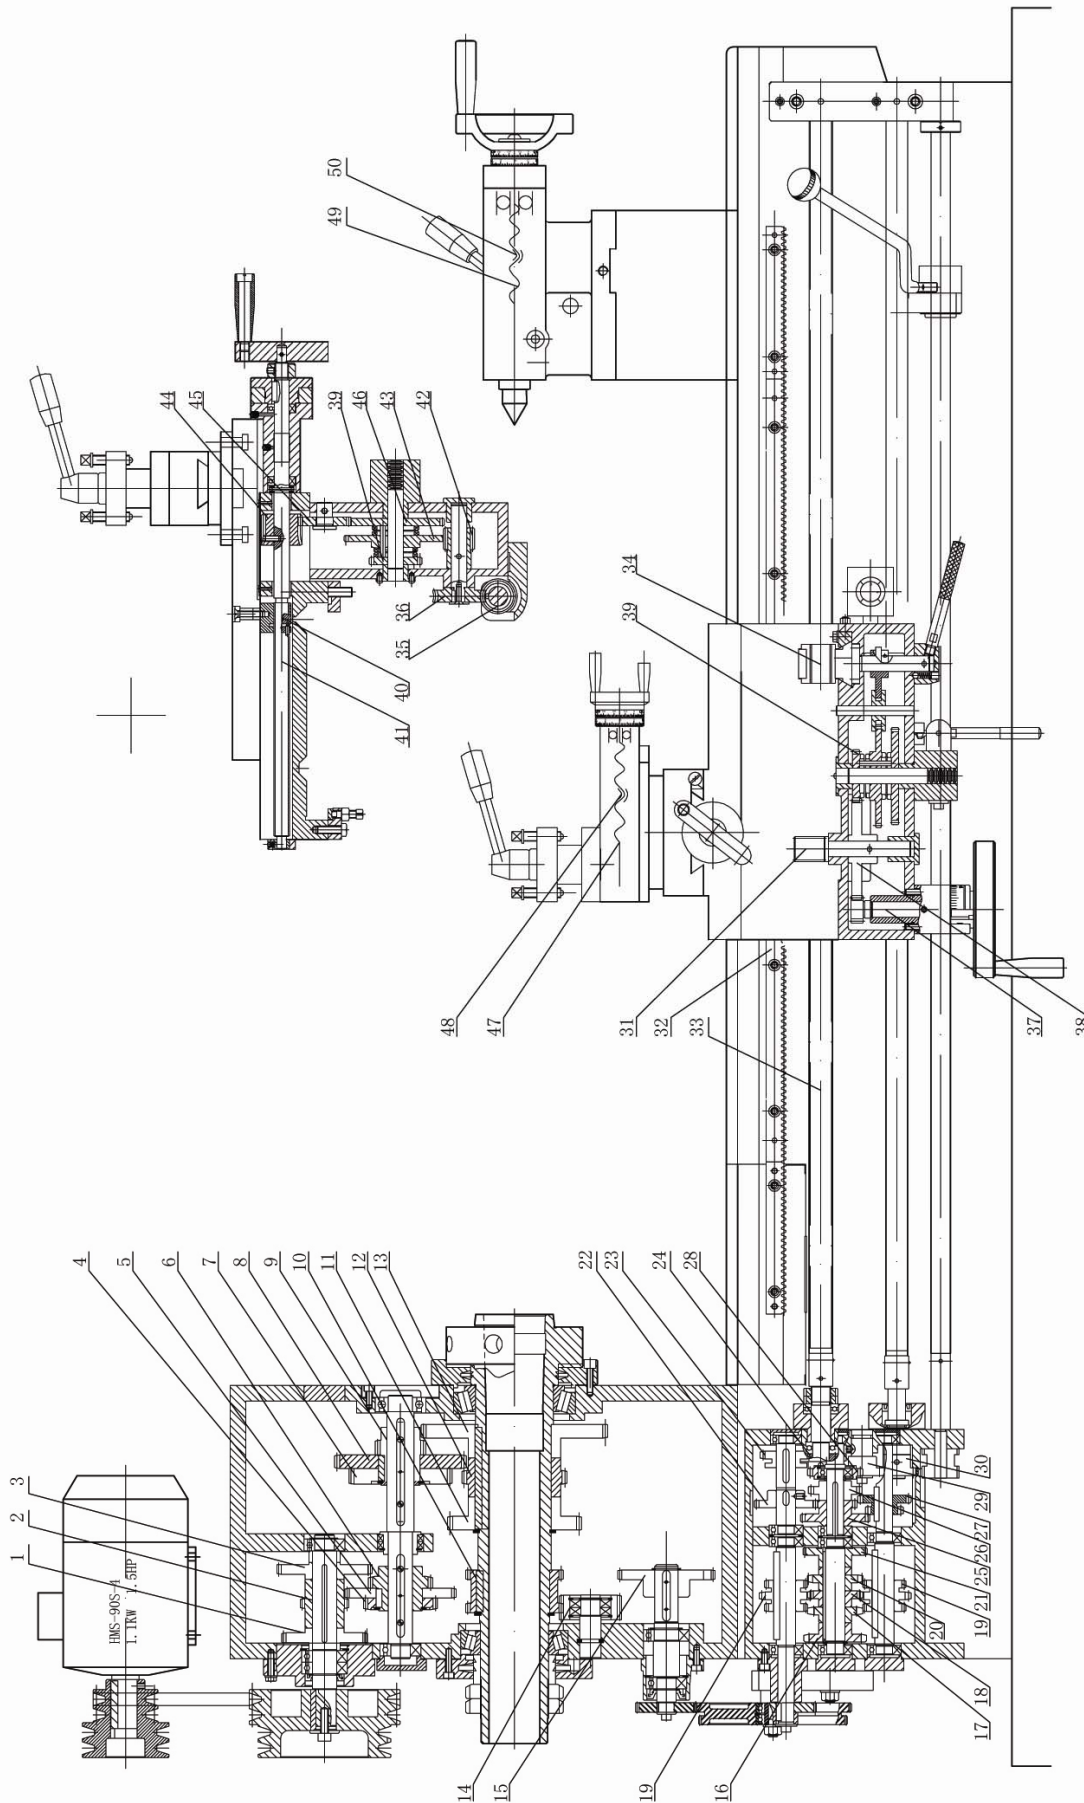

Fig4 Transmission system
**TRANSMISSION SYSTEM&PARTS - - Fig4. Table 1 and Table renewal.**
(SEE FIG4)
TRANSMISSION SYSTEM (SEE FIG4)